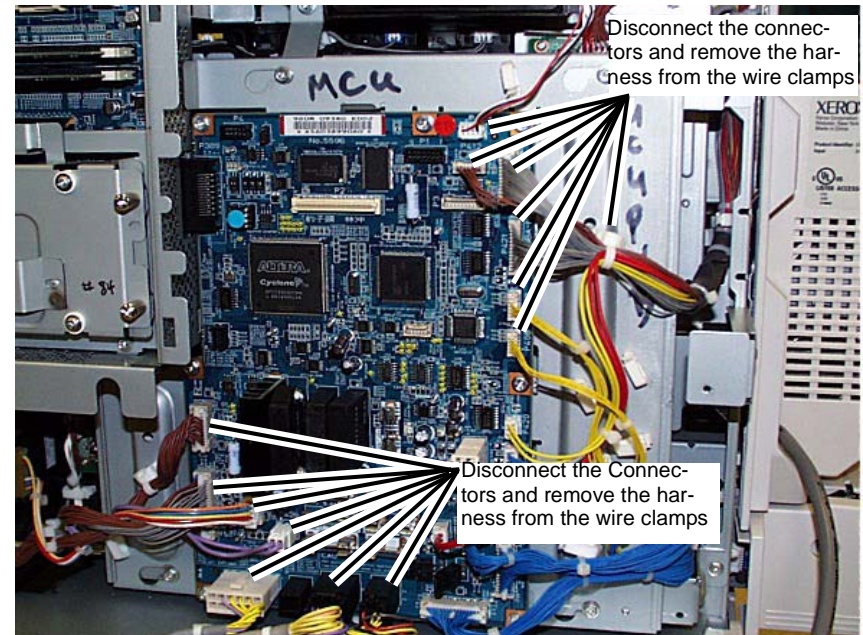
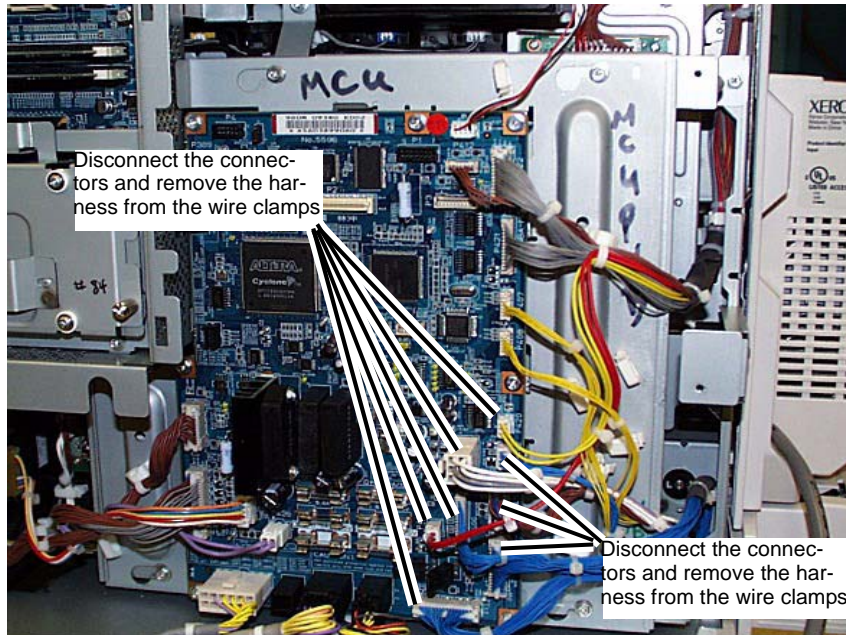

Figure 2 Disconnecting 13 of the connectors on the MCU PWB
Figure 3 Disconnecting the remaining 8 connectors on the MCU PWB
5. Disconnect the connectors from the MCU PWB. (Figure 2, Figure 3)